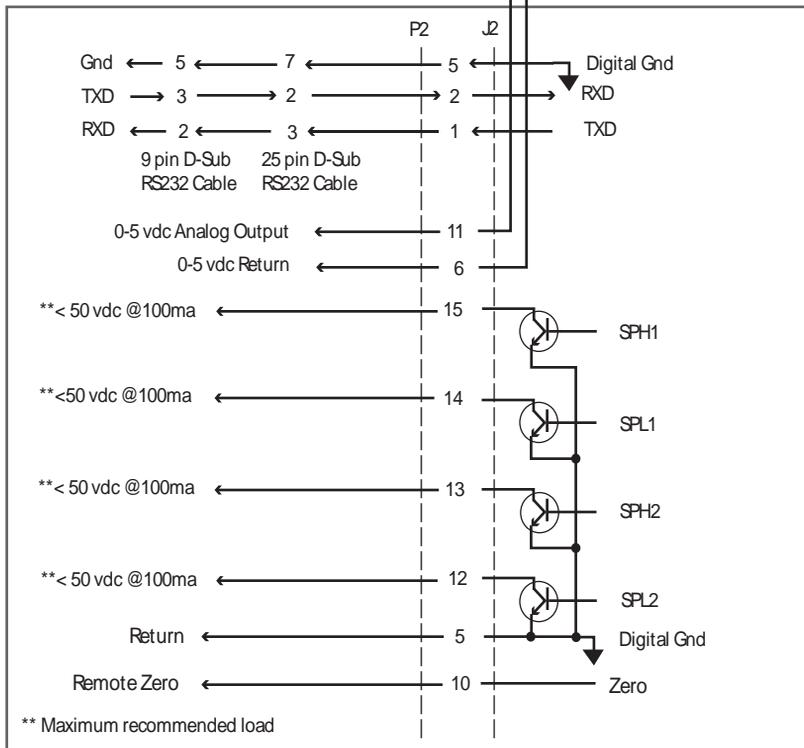

Figure 4. Input/Output Wiring Diagram
SPH1 is a digital setpoint being constantly compared with the displayed reading. If the magnitude and sign of the reading exceeds the SPH1 value, the SPH1 open collector output will activate and pull its respective D-Sub connector pin to ground (Ref Figure 4 on page 4). The front panel LED (H1) will also illuminate. If SPH1 is exceeded, the reading must then drop below SPH1 less the Hysteresis High (HH) value before the open collector output opens and the H1 LED turns off.